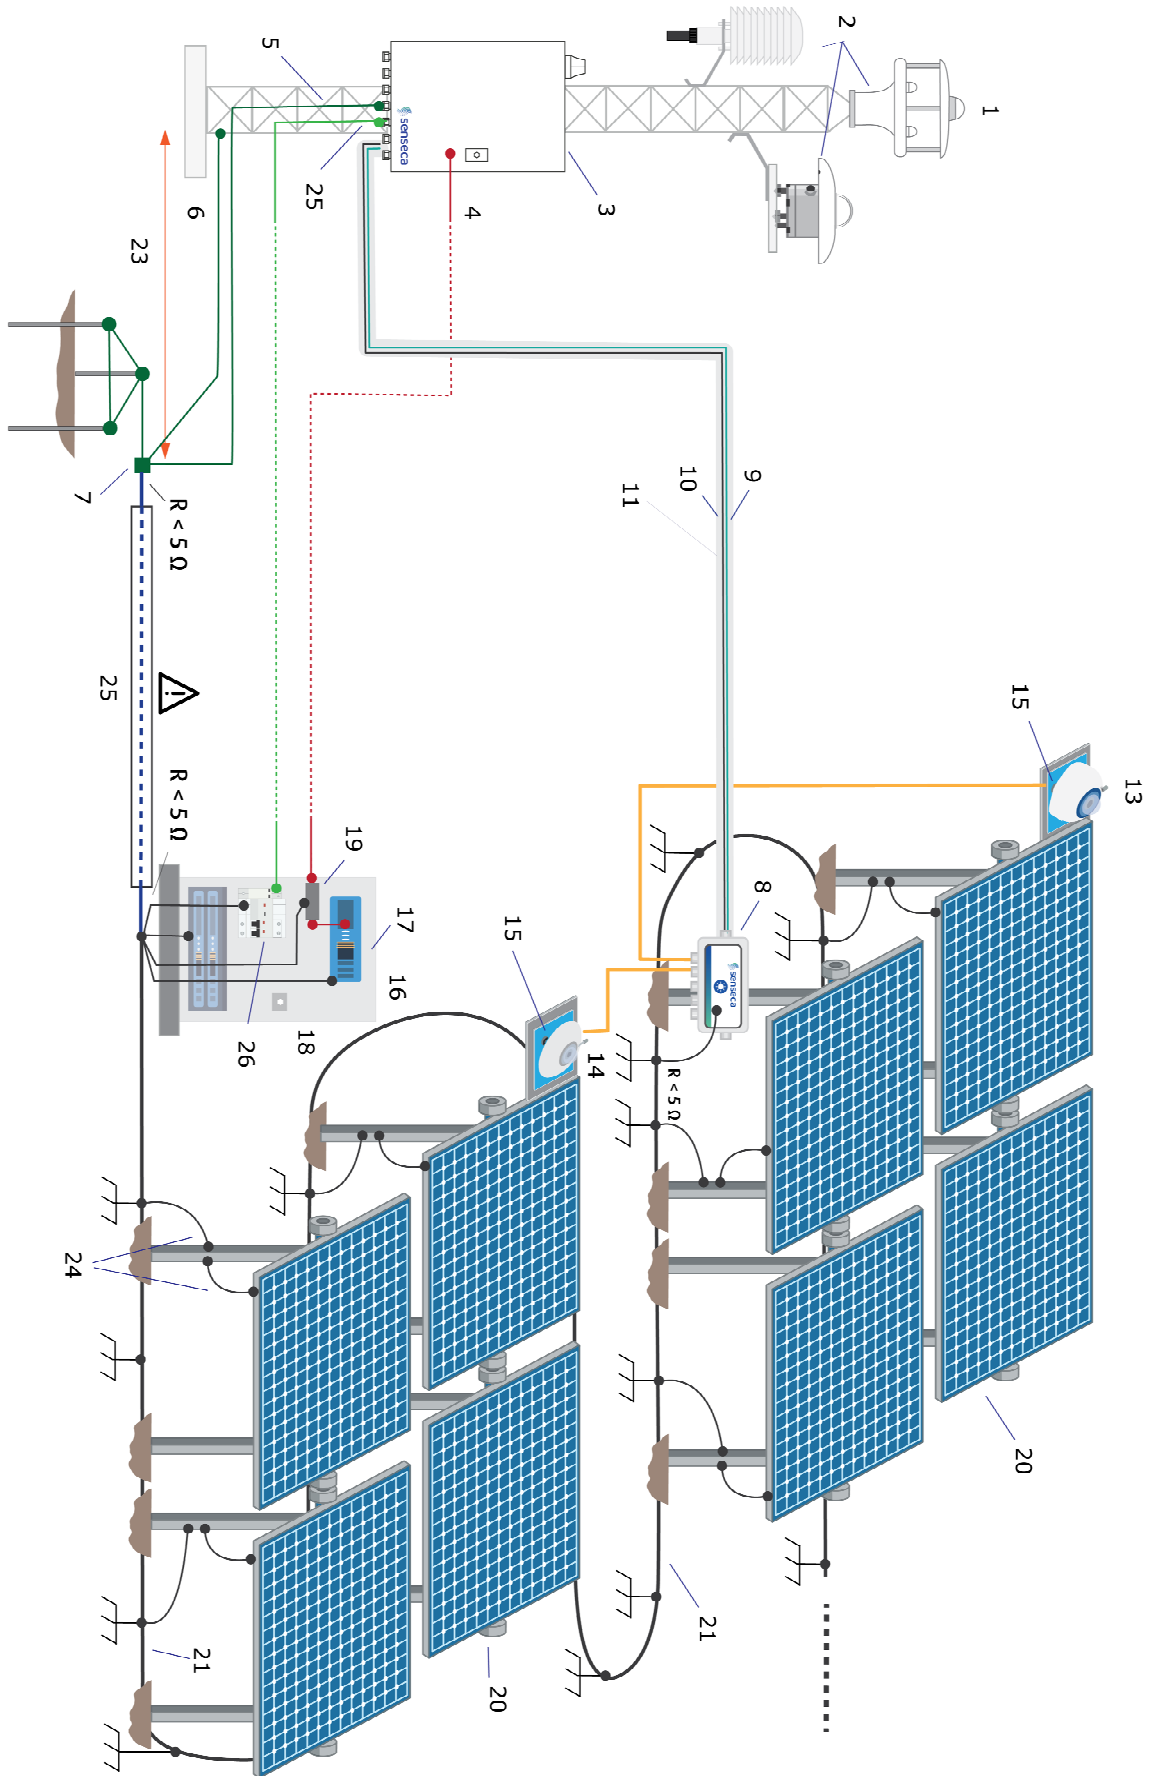

Fig. 3.3: Installation in photovoltaic solar plants
- If a lightning conductor (optional) is installed, connect to the 'Instrumentation' ground diversion point. See point 7 in Fig. 3.3.
- The plant must have its own ground network (**'Power' ground**). The panel arrays (the piles and panel structures - see point 24 of Fig. 3.3) must be properly connected to the ground, along with the inverter, communications, power, etc. cabinets.
- The 'Instrumentation' ground must be connected to the plant ground ('Power' ground) by direct bonding to ensure the equipotential. See point 22 in Fig. 3.3.
- All interconnected elements of the solar plant must have an equipotential ground reference. For this reason, both grounds must be connected at point 'A' of Fig. 3.3.